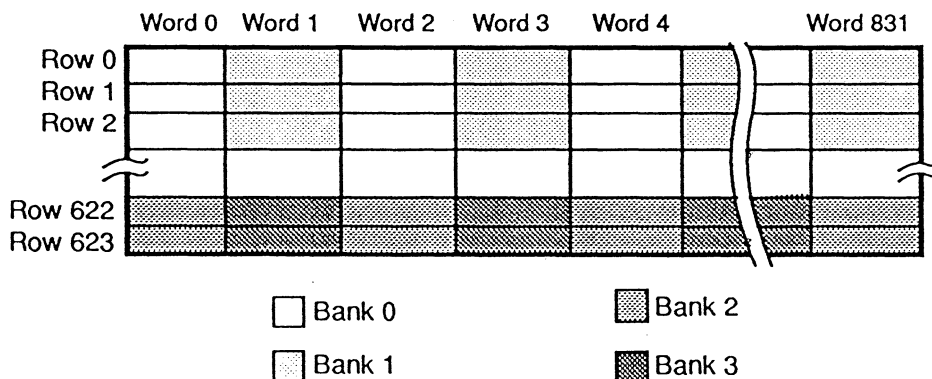

FIGURE 55. WORD/BANK INTERLEAVING
- *Word/bank interleaved.* This addressing mode is used for the 832 x 624 display resolution with 32 bpp, and for the 768 x 576 display resolution (PAL) with 32 bpp. All four banks of VRAM are required for this mode. Successive longwords in memory are located in alternating banks, with word N located in bank N modulo 2 for the first half the display, and located in bank (N modulo 2) + 2 for the second half of the display. This configuration is shown in Figure 55. Word/bank interleaving is required when data can not be clocked out of a single VRAM bank quickly enough (33 MHz typical limit on a single bank) to support the pixel data rate required by a particular configuration.